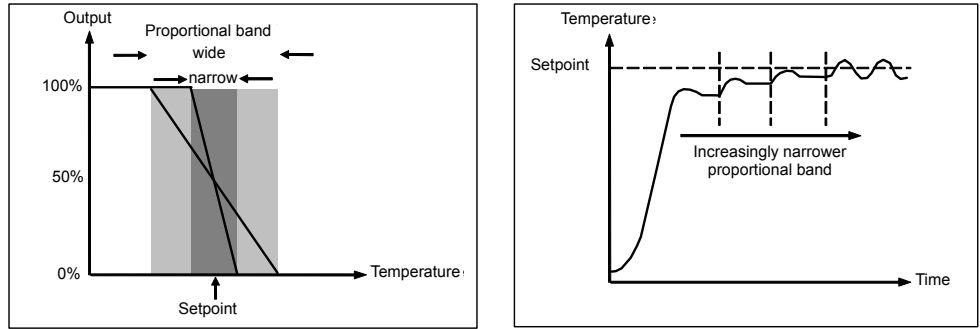

Figure 118 Proportional Action
The proportional band, or gain, delivers an output which is proportional to the size of the deviation. It is the range over which the output power is continuously adjustable in a linear fashion from 0% to 100% (for a heat-only controller). Below the proportional band (PB) the output is full on (100%), above the proportional band the output is full off (0%) as shown in Figure 118.
Figure 118 also shows the effect of narrowing proportional band to the point of oscillation. A wide proportional band results in straight line control but with an appreciable initial deviation between setpoint and actual temperature. As the band is narrowed the temperature gets closer to setpoint until finally becoming unstable.